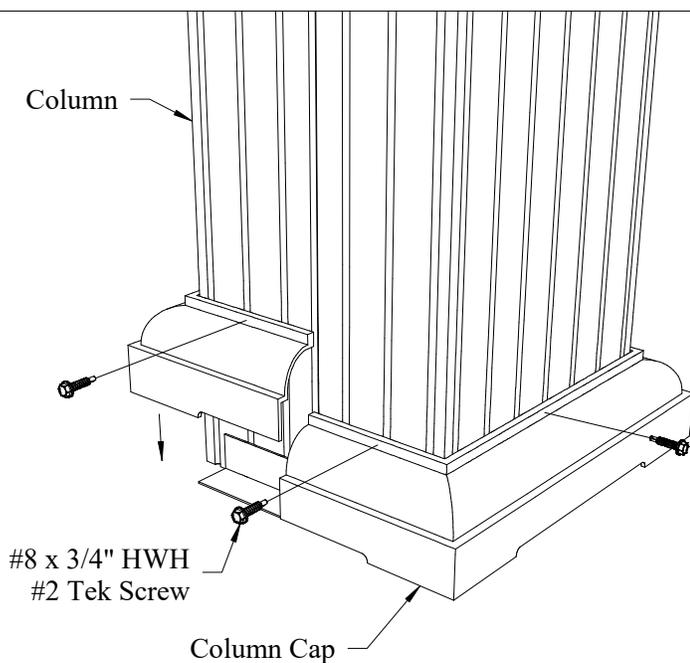

Fig. 3-5
- Attach the column cap to the column using (6) #8 x 3/4" HWH #2 Tek screws as shown (see Fig. 3-5).